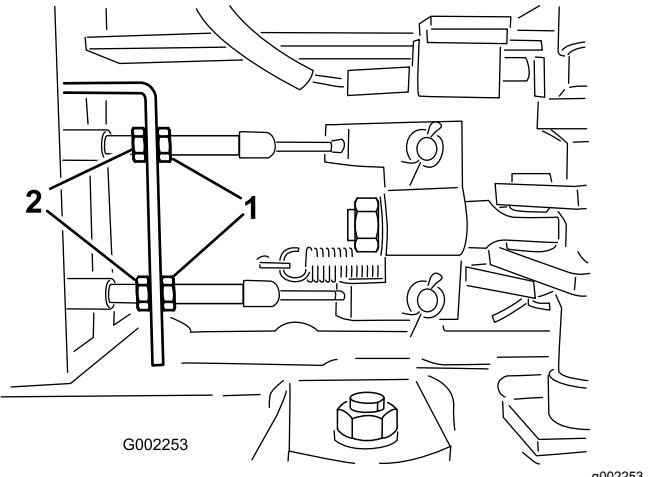

Figure 87
5. Loosen the front nuts on the brake cables under the front end of the sprayer (Figure 87).
6. Tighten the rear nuts equally until the brake pedal moves between 1 to 2 cm (1/2 to 1 inch) before you feel resistance (Figure 87).